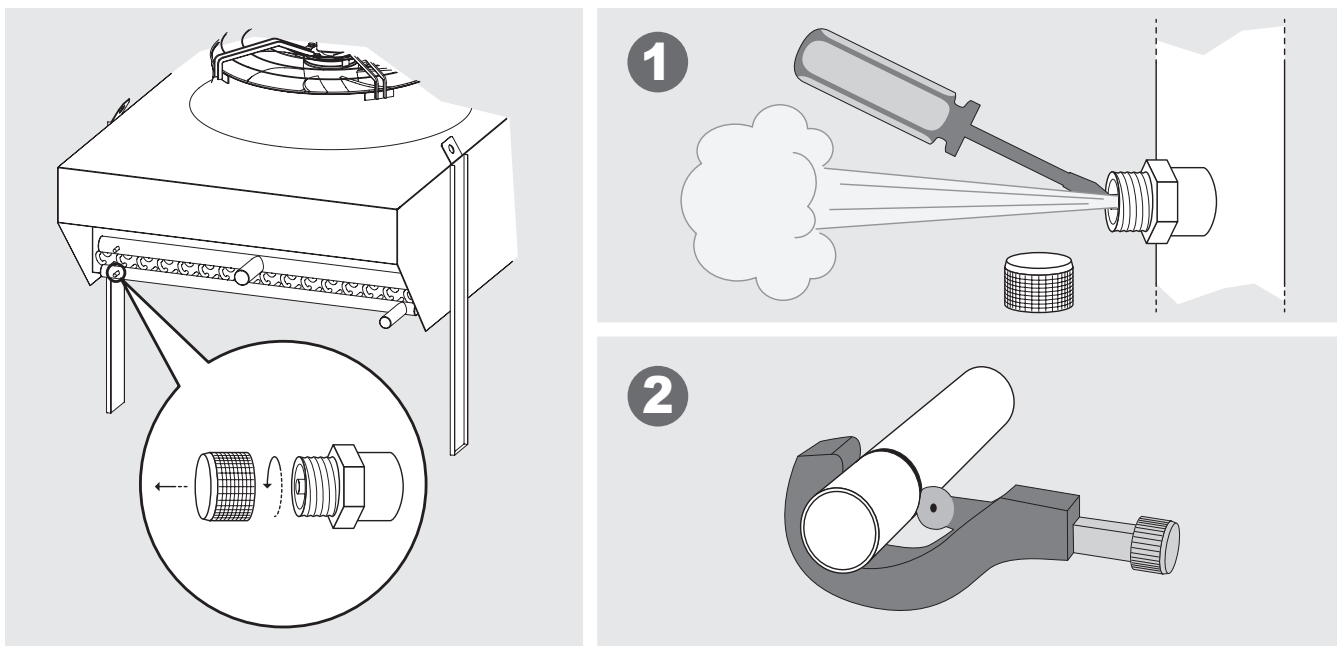

Figure 7
- 6.13 For KCEK condensers and KCES gas coolers, discharge the pre-charge pressure (approx. 2 bar) from the heat exchanger before cutting the inlet and/or outlet sleeves. See Figure 7.